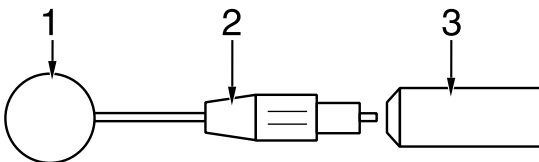

Figure 4-11. Inserting the spoon electrode
- Screw the counter nut 2 (Figure 4-11) onto the electrode as far as it will go.